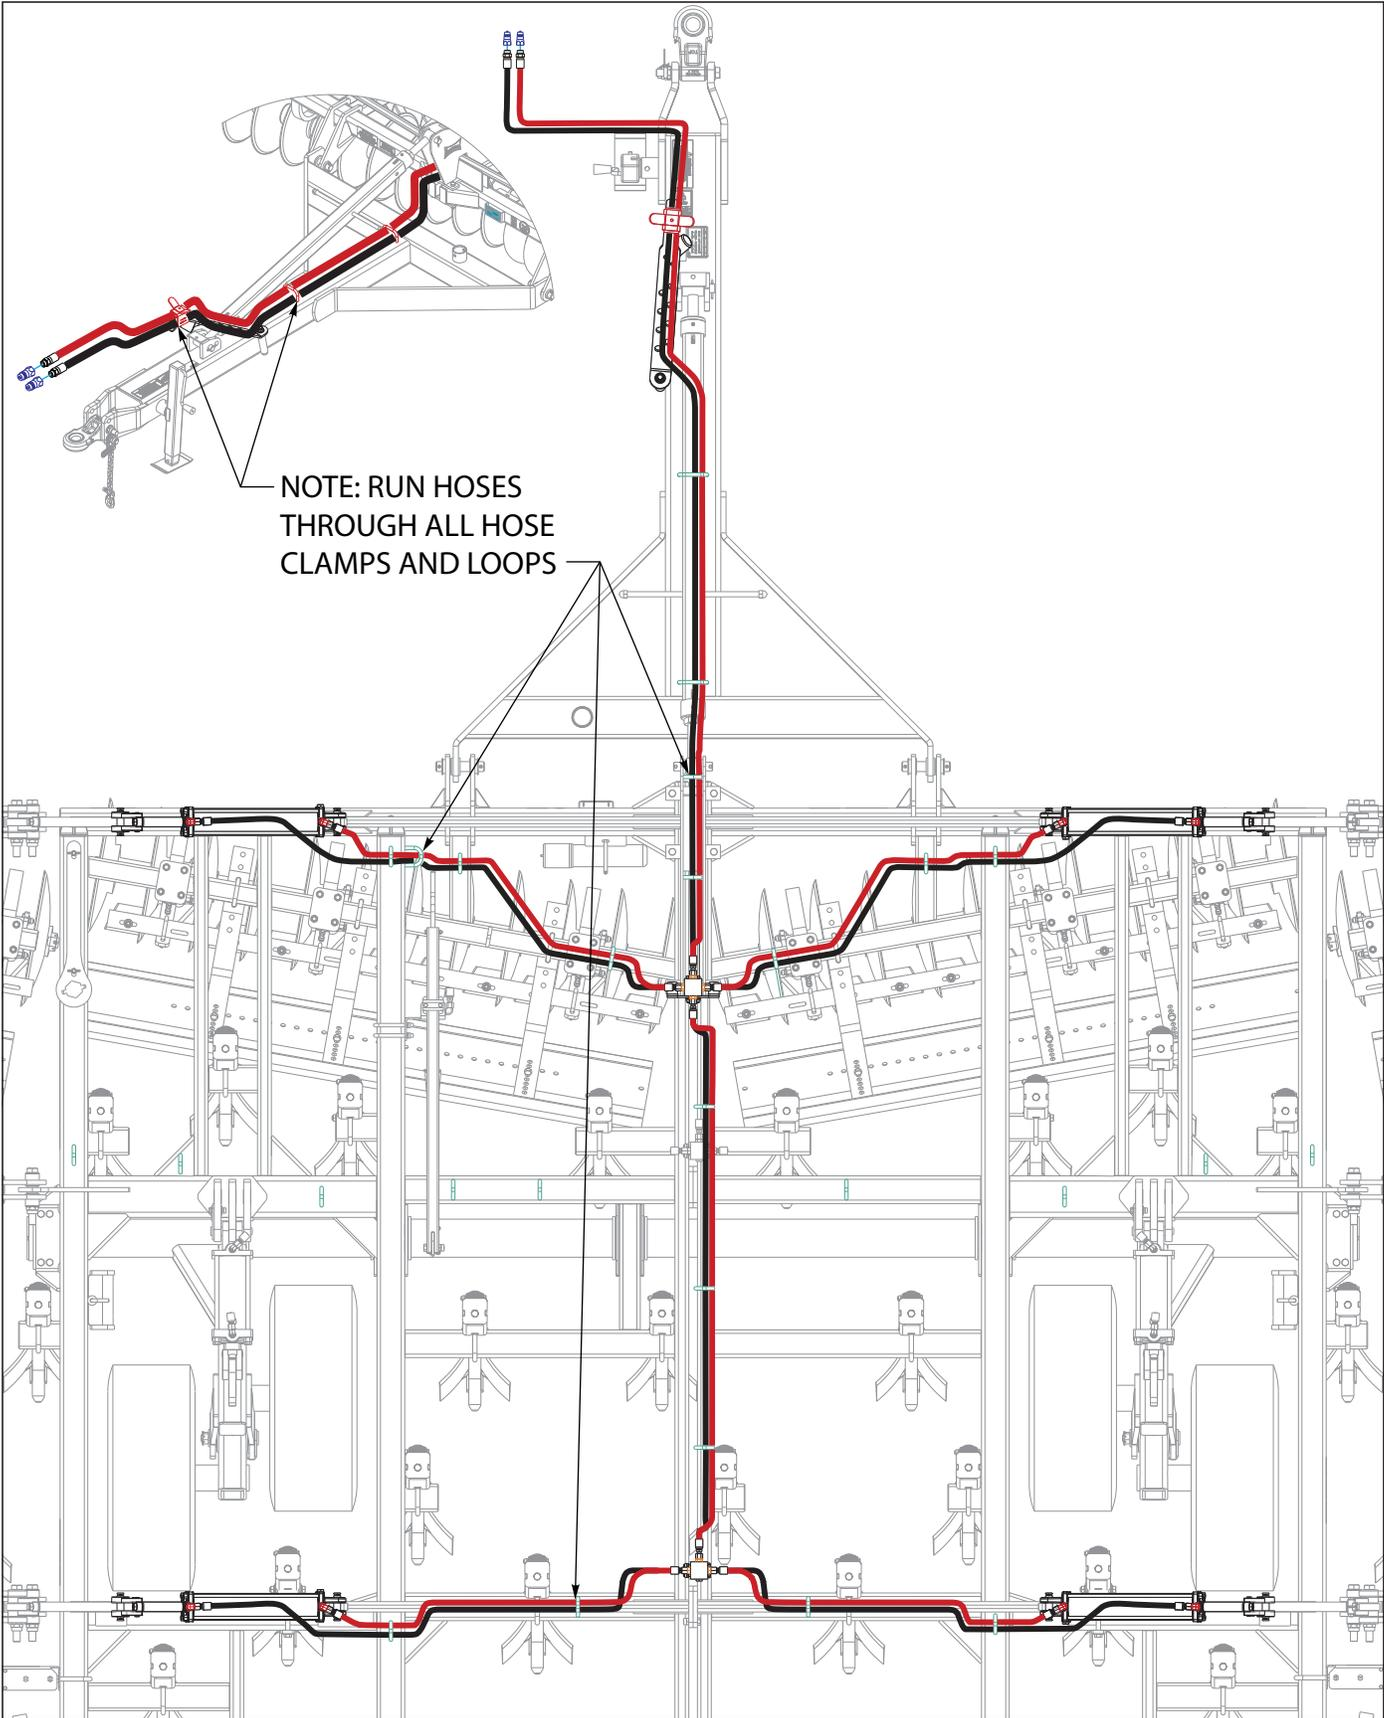

Figure 3-26: Hydraulic Fold Placement 877-30'
7. *See Figures 3-26* through *3-27* for proper hose routing.